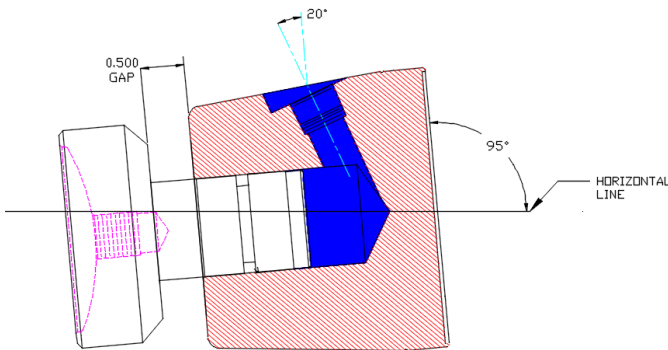

Figure 2
- b. You want to hold the base so the bottom of the base is between 90 to 95 degrees. At this angle, any air bubbles that are trapped in the cavity will escape through the gauge hole (see figure 2).